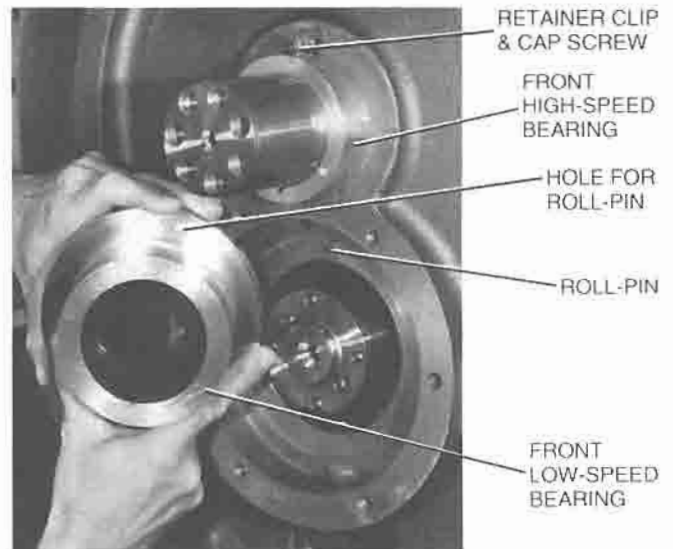

FIG. 22 - FRONT LOW-SPEED AND HIGH-SPEED BEARINGS
4. To remove the low-speed bearing, use (2) hook tools and carefully pull the bearing out of the bearing housing. Note position of roll-pin. (See Fig. 22)
1. Remove the cap screw and retainer clip. (See Fig. 22)
2. Using (2) 1/4" puller rods, pull the high-speed bearing out of the bearing housing.
INSTALLING FRONT HIGH-SPEED BEARINGS (SEE FIG. 22)
3. Carefully slide the low-speed bearing into place over the shaft and into the cavity in the bearing housing. Be sure hole in bearing flange engages roll-pin in bearing housing. (See Fig. 22)